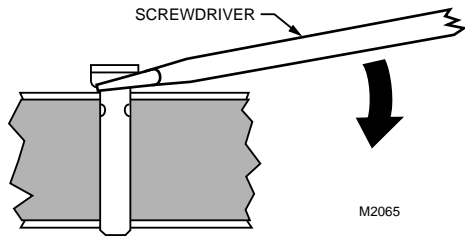
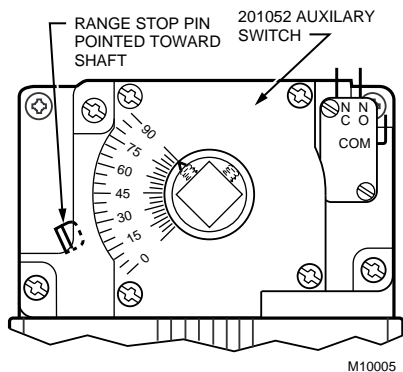

Fig. 8. Lifting a range stop pin out of its slot.
Fig. 11. 201052 Auxiliary Switch mounted on W7751H.
When a range stop pin is used with a field-added auxiliary switch, the tab on top of the range stop pin must point inward toward the VAV damper box shaft. See Fig. 11. This allows clearance for the auxiliary switch housing. To remove the pin, pry it up with a flathead screwdriver. See Fig. 8.
The 201052A,B,C Auxiliary Switch can be used with the W7751H. It allows for control of equipment external to the actuator (for example, electric reheat coils or fan) at an adjustable point in the stroke (from 0 to 90 degrees) of the actuator. The 201052 Switch is field-added. Self-tapping Phillips head screws are included with the switch. The switch can be mounted only one way (see Fig. 11) with the switch contacts pointed to the top of the actuator.
- If a range stop pin is used, it must be pointing inward toward the shaft (see Fig. 11) to allow clearance for the auxiliary switch.